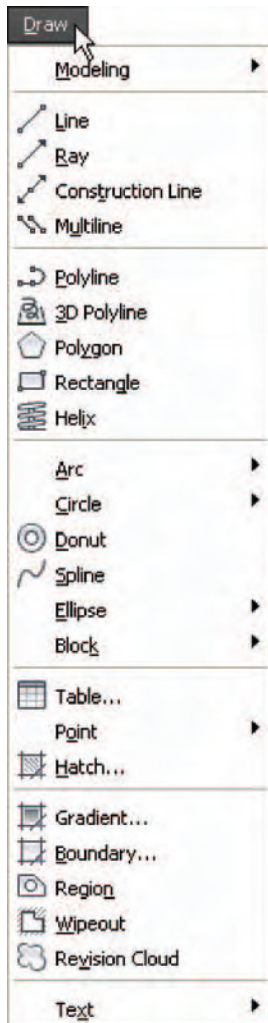
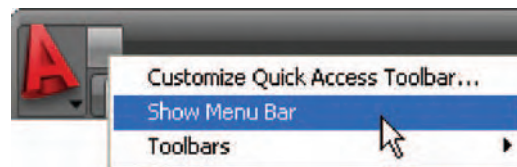

Fig. 3.4 The **Draw** drop-down menu
Fig. 3.1 Bringing the menu bar on screen
3. by *clicking* on the tool's name in an appropriate drop-down menu. Figure 3.4 shows the tool names and icons displayed in the **Draw** drop-down menu. It is necessary to first bring the menu bar to screen with a *click* on **Show Menu Bar** in the *right-click* menu of the **Quick Access Toolbar** (Fig. 3.1);